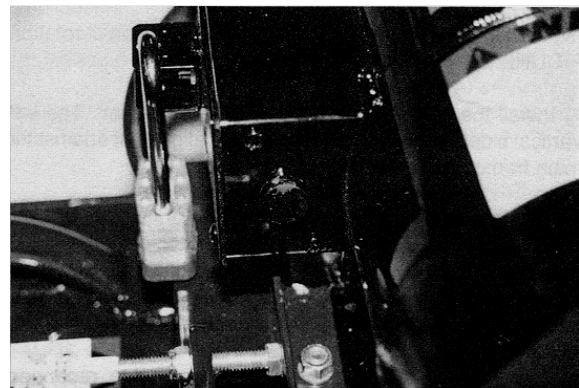

FIGURE 24
- 5) Providing proper voltage and amperage levels to the electric motor is essential to obtain maximum productivity and service life. Low voltage and amperage levels will cause the motor to overheat. The motor is equipped with an automatic thermal protection device that will stop it before major internal damage can result. After the motor has cooled to an acceptable temperature level, the switch must be manually activated to restart. FIGURE 24.